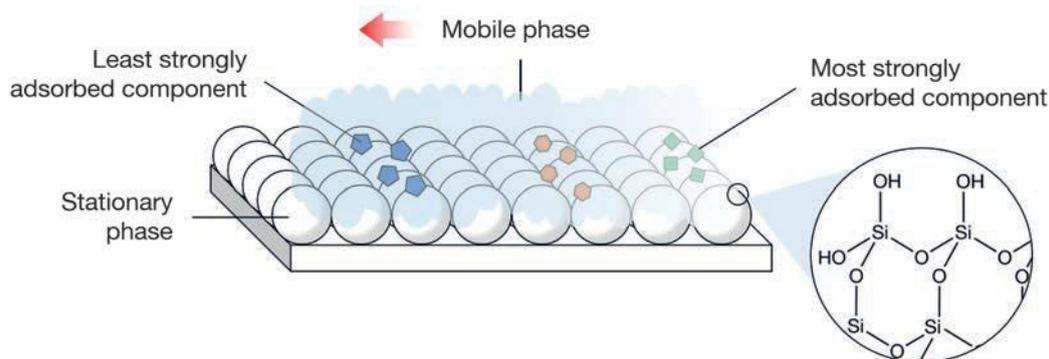

Figure 1.4.1: Adsorption of particles onto the surface of a stationary phase.
**Adsorption chromatography** involves interactions on the surface of the adsorbent material used as the stationary phase (Figure 1.4.1). Some methods of chromatography also involve interactions within the structure of the stationary phase between liquid phases (referred to as **adsorption** or **partition** chromatography).